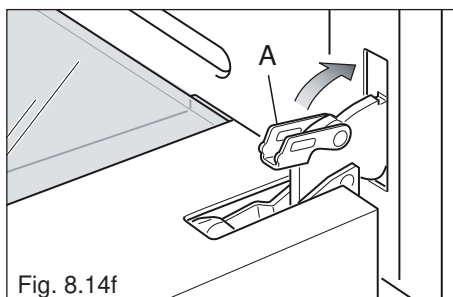

Fig. 8.14f
- Unlock the oven door by opening it completely and closing the lever “A” on the left and right hinges (fig. 8.14f).